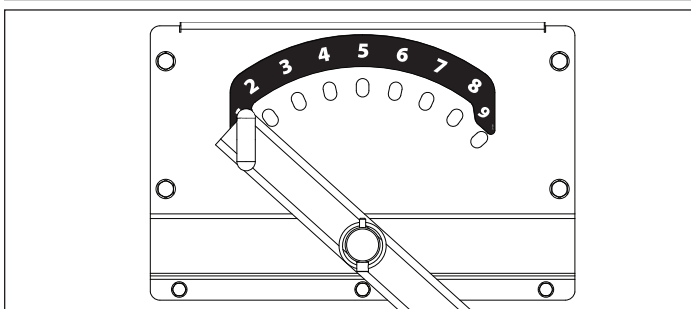

FIGURE 8: Tow Bar Offset Position Guide
- b. Position the tow bar at the desired numbered offset hole on the deck mount degree plate. **SEE FIGURE 8 AND TABLE 1**